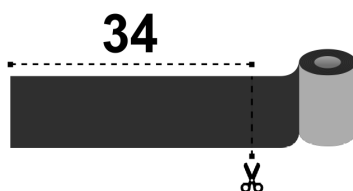
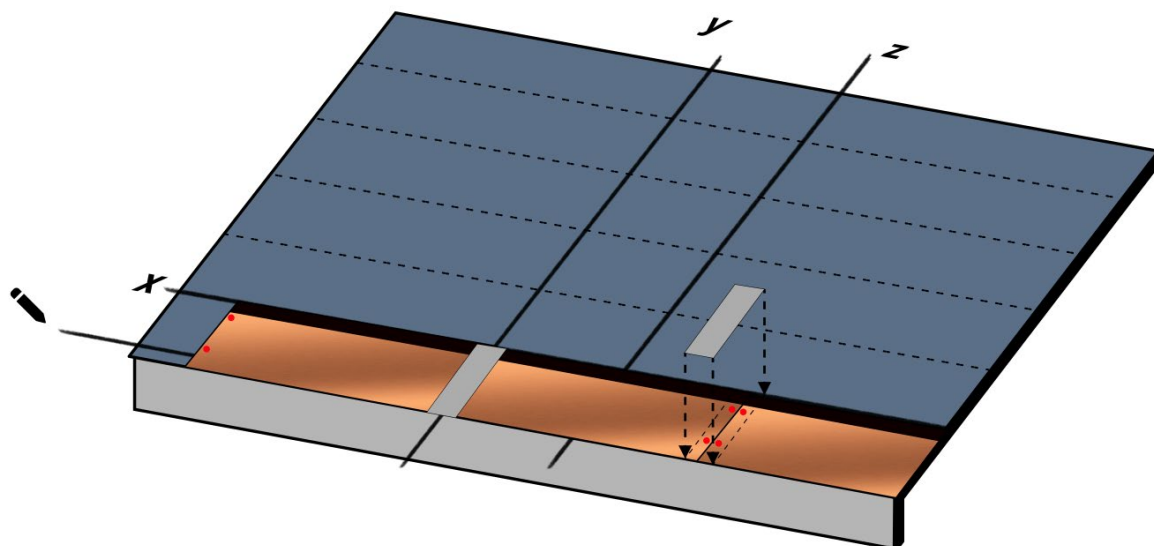
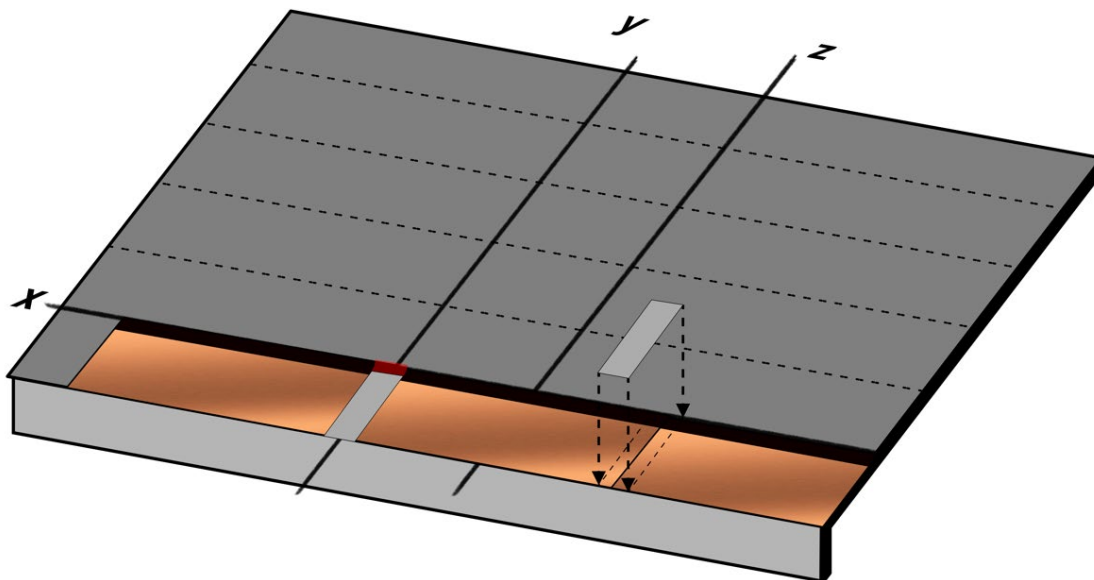
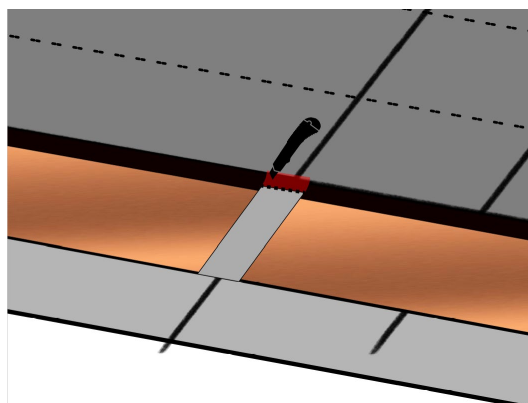

Fig. 7 - Compact Strip
Fig. 8 - Compact Strip installation
Fig. 19 - Compact Strip installation
Fig. 20 - Cutting the upper part of the Compact Strip protective film
- From the roll of Compact Strip sealant, cut pieces 34 cm long - Fig. 7. Position the prepared piece of Compact Strip at the centre of the joint between two consecutive shingles (Fig. 8), applying pressure to ensure perfect adhesion to the substrate. Do not remove the top non-stick film from the Compact Strip strip.
- From the Compact Strip roll, cut pieces of 34 cm in length – Fig. 7. Position the prepared piece of Compact Strip at the centre of the joint between two consecutive shingles (Fig. 19), applying sufficient pressure to ensure perfect adhesion to the substrate. Do not remove the top anti-adhesive film from the Compact Strip but only cut off the upper part indicated in red in Fig. 20, exposing a portion of the butyl tape.